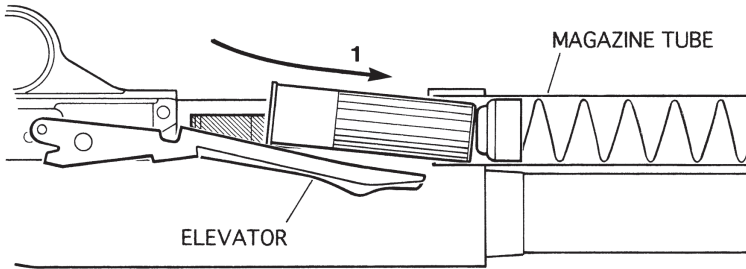

Figure 6
1. Carefully push the cartridge into the loading port, depressing the elevator (Figure 6). This will expose the magazine tube opening within the receiver.